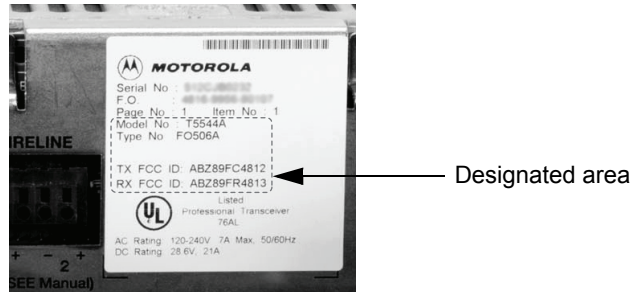

Figure 10-5 Location to affix the MTR3000 FCC upgrade label
8. Affix the provided MTR3000 FCC upgrade label to the area noted in Figure 10-5.